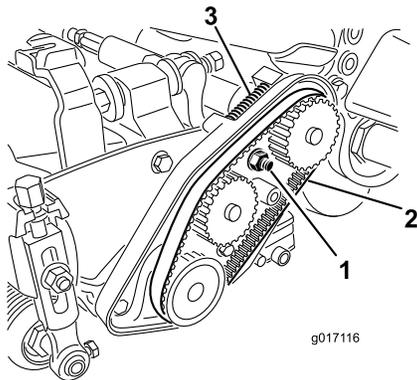

Figure 41
- A. Loosen the bearing housing mounting nut (Figure 41).
- C. Clean any debris from inside the belt compartment and from around the compression spring (Figure 41).